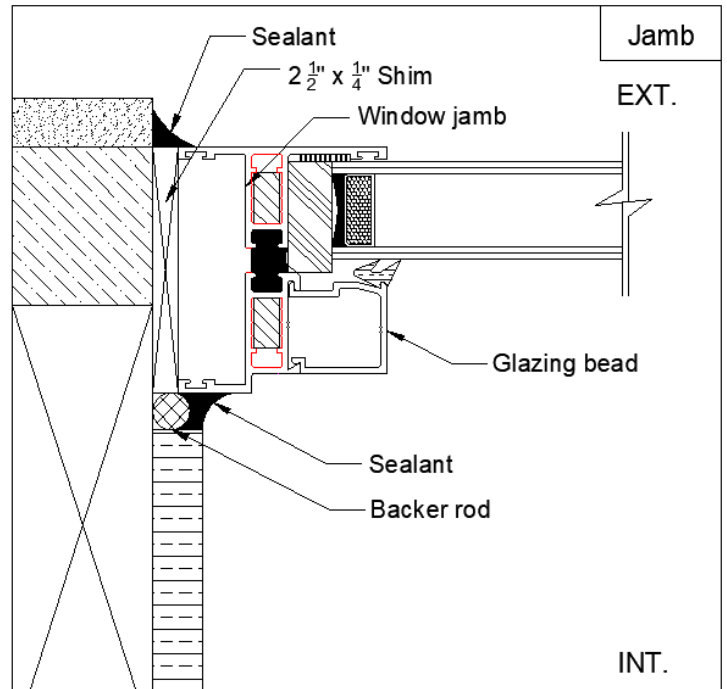

Figure 3: Top View of Jamb
2.2 Set the window on the shim and adjust the window to make equal clearances on both sides. Insert 2 $\frac{1}{2}$ " x $\frac{1}{4}$ " shim into the clearance between window frame and opening jamb on both sides, the length of shim is same as the opening height, the thickness of shim is depended on the clearance between window frame and opening jamb ($\frac{1}{4}$ " thickness is typical, refer to figure 3). Notice: do not over insert the shims to distort the window frame.